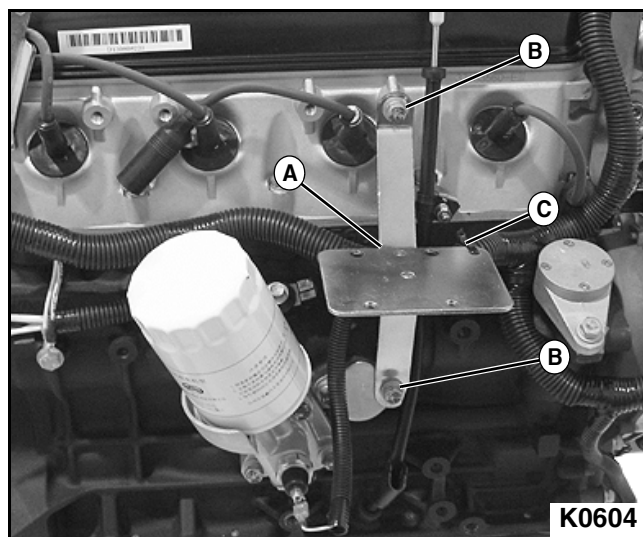

Figure 3-34
1. Install ignition coil mounting bracket (A) to engine with mounting bolts, flat washers, and lock washers (B) as noted during removal. **See Figure 3-34.**
2. Install wire tie (C).